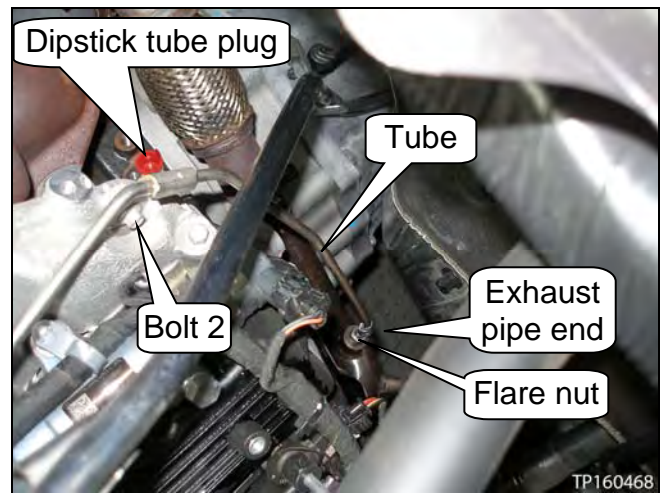

Figure 91
36. Install the exhaust pressure sensor tube (see Figure 91 and 92).